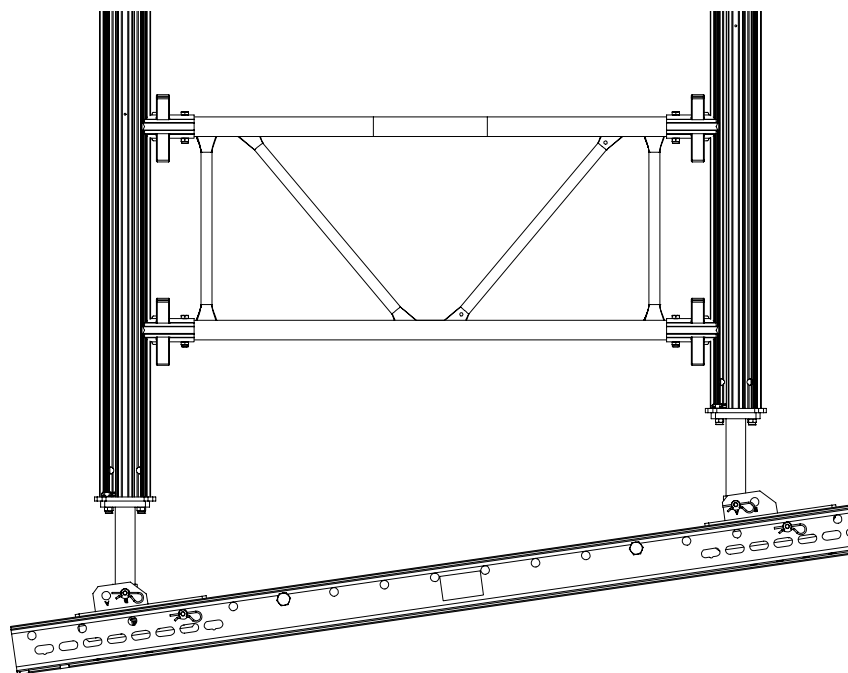

Fig. A6.04
- The Compression Brace Head can also be used for the erection of towers on inclined surfaces. (Fig. A6.04)